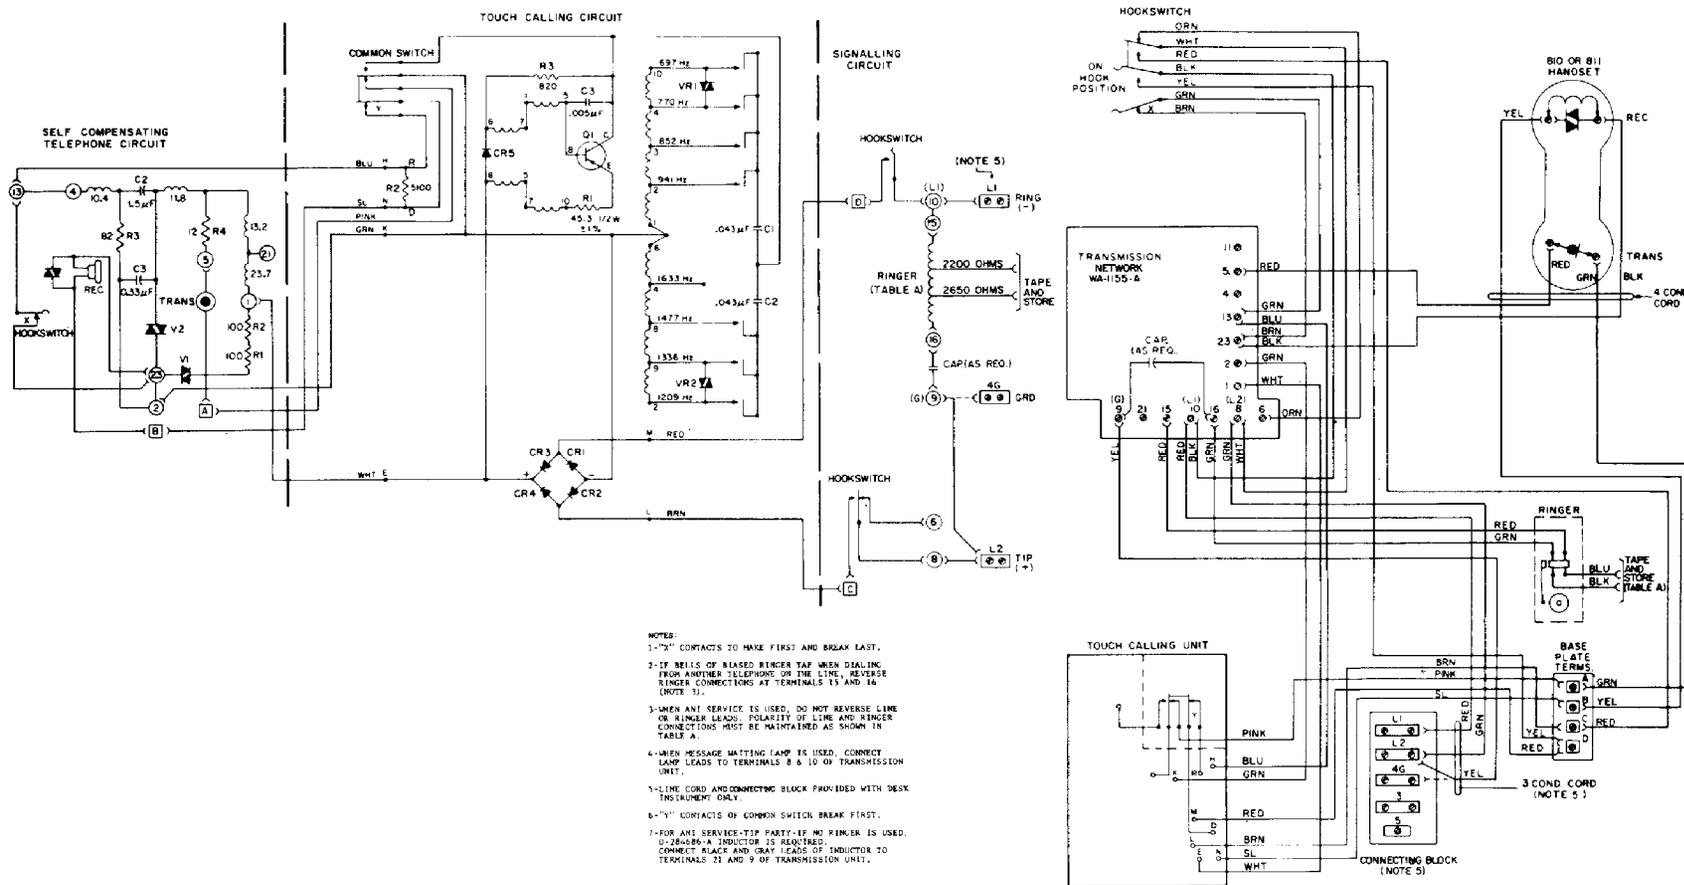

Figure 8. Schematic Wiring Diagram of the Type 182A and 192A Telephones Equipped with an LC Touch Calling Unit (TCU).
- (d) Connect the LCTCU leads according to Figure 8 and Table 6.